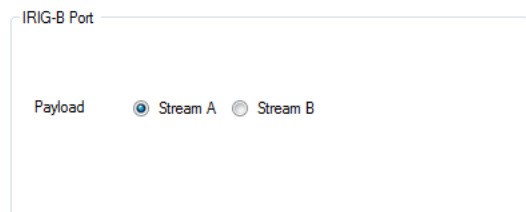

Figure 23 - IRIG-B "Payload" and multiple streams
**“Payload” radio button:** On Clocks which support multiple IRIG-B channels, an additional field called “Payload” will be present. Refer to Figure 23. This feature allows the clock to be configured with two different IRIG-B streams which are generated independently from each other. This is sometimes used when two IRIG-B time bases are required (Local Time and UTC Time), or when different IRIG-B extensions are required on each stream. The user can select “Stream A” or “Stream B” using the applicable radio button. Refer to the IRIG-B sub-tab section for further information.